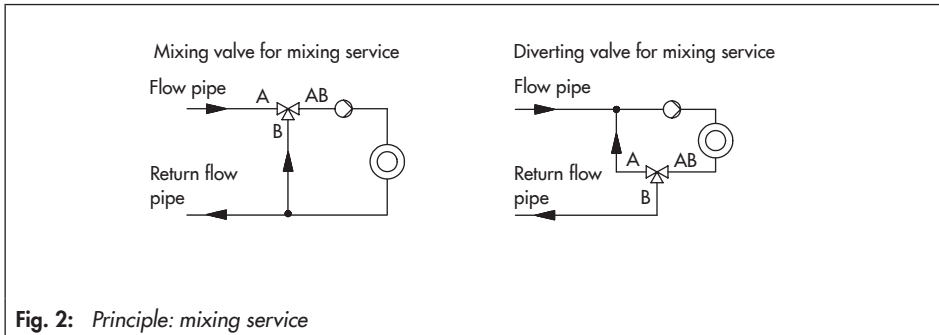

Fig. 2: Principle: mixing service
- With three-way mixing valves: Port A → AB open, B → AB closed (see Fig. 2)
- With three-way mixing valves: Port A → AB closed, B → AB open (see Fig. 2)